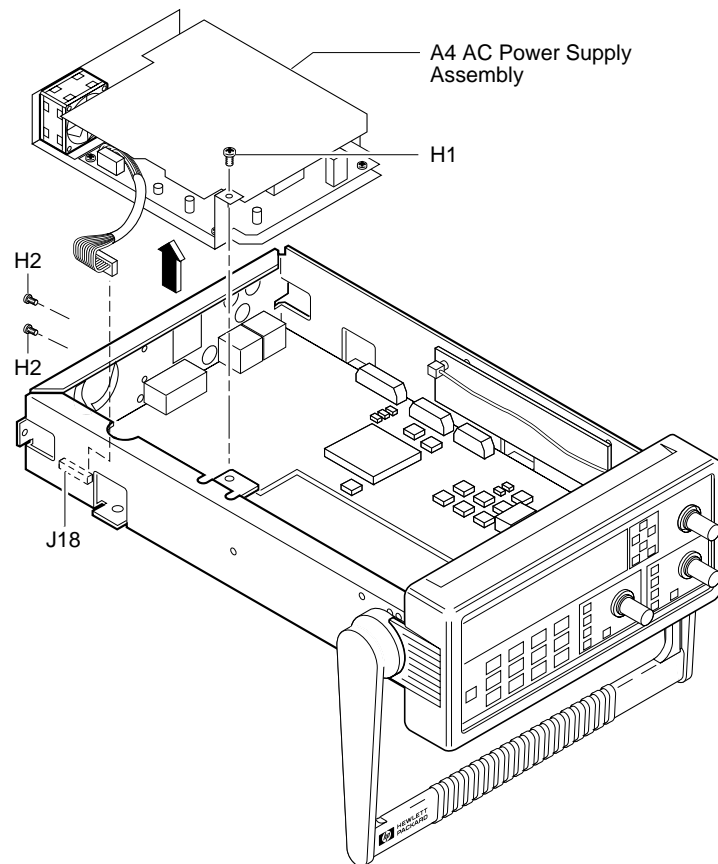

Figure 3-9. A4 AC Power Supply Assembly Removal
2 Remove the TORX screw (H1) located in the upper-middle of the chassis using the TORX 15 screwdriver as shown in Figure 3-9.
- 3 Remove the two TORX screws (H2) on the rear panel using the TORX 10 screwdriver as shown in Figure 3-9.
- 4 Lift up A4 AC Power Supply Assembly and disconnect its cable from J18 on A1 Motherboard Assembly to remove the power supply assembly as shown in Figure 3-9.